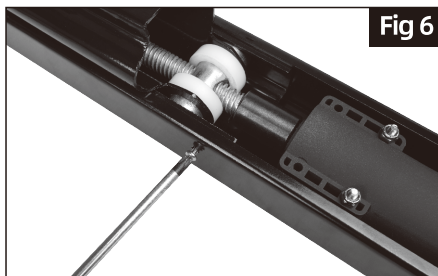

Fig 6
6. Once firmly in place, use a powered screwdriver to install the self tapping screws to secure the motor channel to the jack assembly. There are predrilled holes in the motor channel to use as a guide (fig 6)